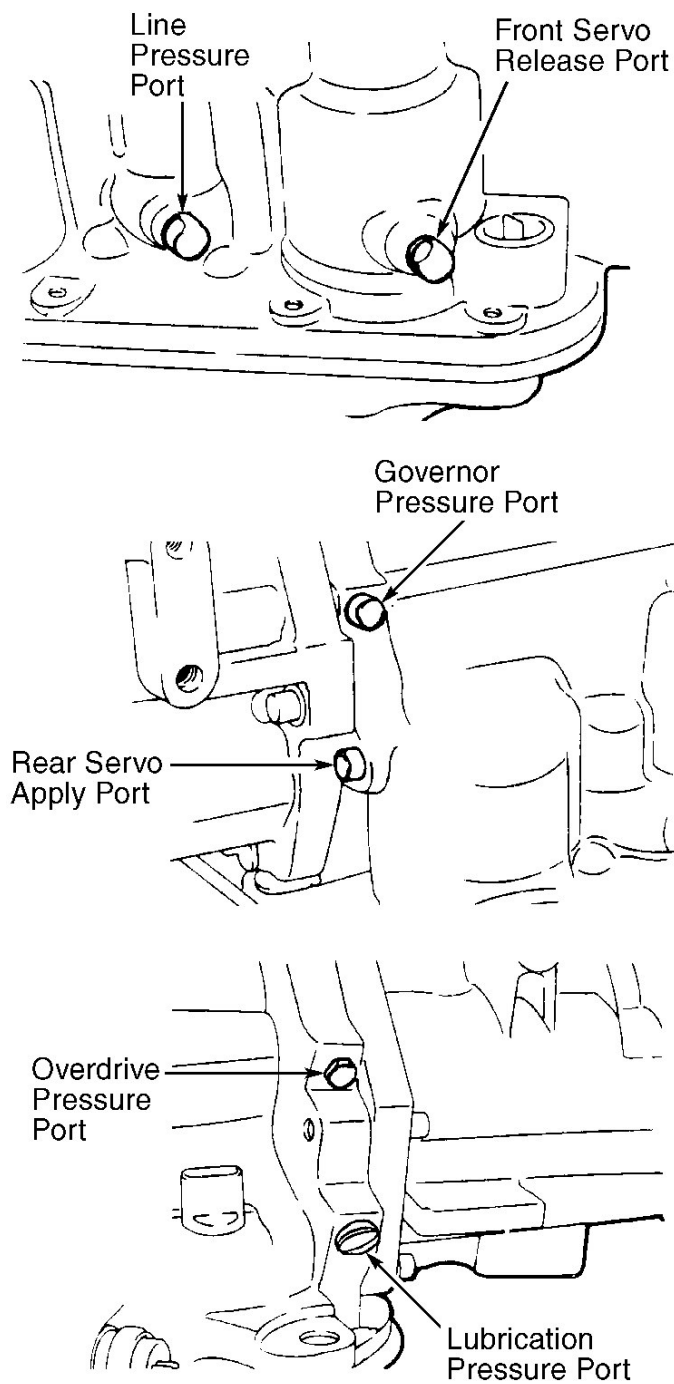

Fig. 5: Locating Pressure Test Ports
1. Attach gauges to line pressure and rear servo pressure ports. See **Fig. 5**. Operate engine at 1000 RPM for following tests.
1. Attach gauges to line pressure and front servo release pressure ports. See **Fig. 5**. Operate engine at 1600 RPM for following test. Move gear selector lever to "D" range.
1. Attach 300 psi gauge to rear servo apply port. See **Fig. 5**. Operate engine at 1600 RPM for following test.